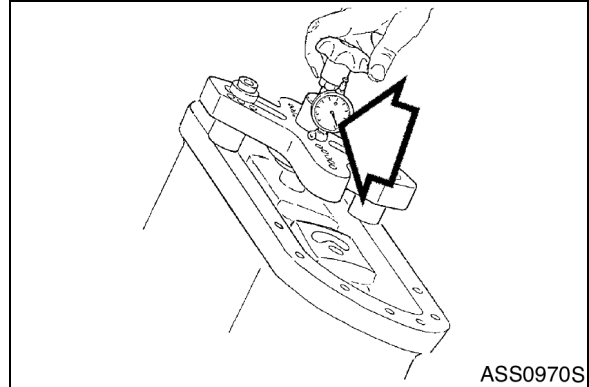

Figure 103
A. Size 80 - 107 (Figure 103).